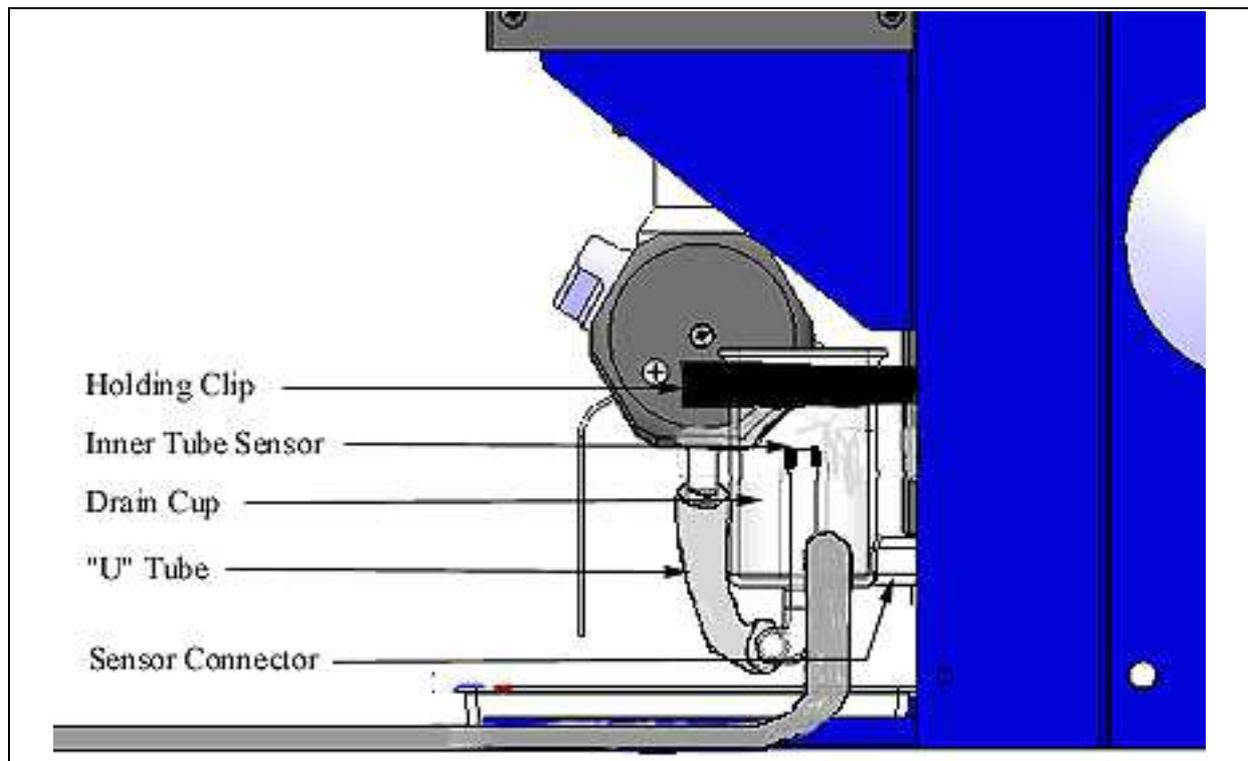

Figure 7.1
The Drain Cup has a sensor that the software monitors during the Start Up cycle to ensure that the “U” tube is filled with water. For the sensor to operate, the water must have some conductivity. Normal tap water will provide the correct level of conductivity. Always be sure that the inner tube is filled to overflowing. See Figure 7.1. The only maintenance needed is occasional cleaning.
- Reattach the “U” tube and waste tube. Fit back onto the holding clips. *Be sure that the top rim of the Drain Cup sets on the top clip so that the inner overflow tube is even with the drain opening of the Mixing Chamber. See Figure 7.1.*
- Check that the centre tube of the Drain Cup (see Figure 7.1) is filled to the sensor with tap water or deionised water made conductive with a small amount of salt.